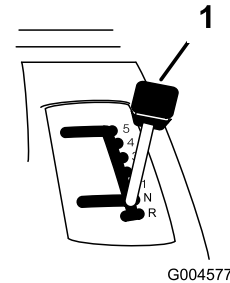

Figure 10
3. Shift the ground speed lever into Neutral (Figure 10).